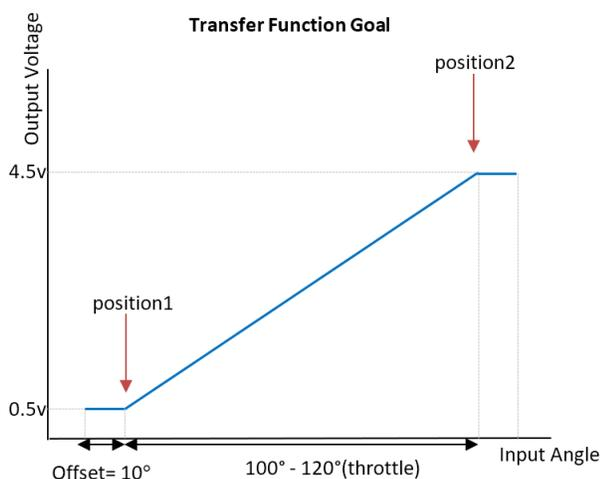
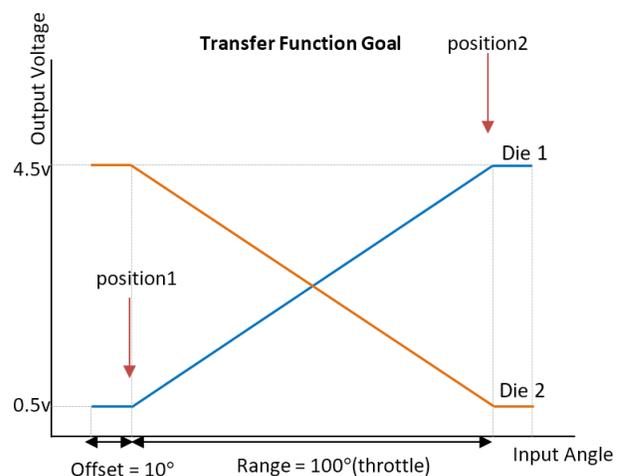
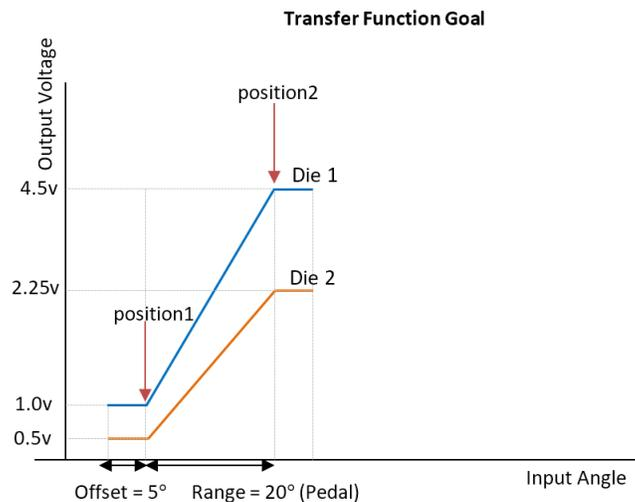

Figure 1. Single Die Throttle Application Curve
Figure 2. Dual Die Throttle Application Curve
Figure 3. Dual Die Pedal Application Curve
Figure 1, Figure 2, and Figure 3 show typical transfer function curves of three different applications. These three curves will be implemented in this application note using the A1330 DLL with LabVIEW.
For the above transfer functions in Figure 1, Figure 2, and Figure 3, note that if the desired low level is less than 0.35 V or the desired high level is higher than 4.65 V, some devices may not be able to reach this value because of DAC output limitations; see datasheet specification for guaranteed minimum DAC output. Also, if the desired offset multiplied by the desired gain is greater than 180°, insufficient adjustment exists in the A1330 to meet this requirement. As an example, if the desired gain is 4x, the offset cannot be larger than 45 mechanical degrees.
To achieve a transfer function as shown in Figure 1, use data from two readings, Position1 and Position2, to calculate the desired offset and gain values.
4. Some options must be noted to achieve the curve in Figure 1:
Now when moving the magnet from Position1 to Position2, the transfer function of Figure 1 should appear.
If the A1330 dual die version is to be used to make curves like Figure 2 and Figure 3, the following procedure is suggested, based on ASEK-21: